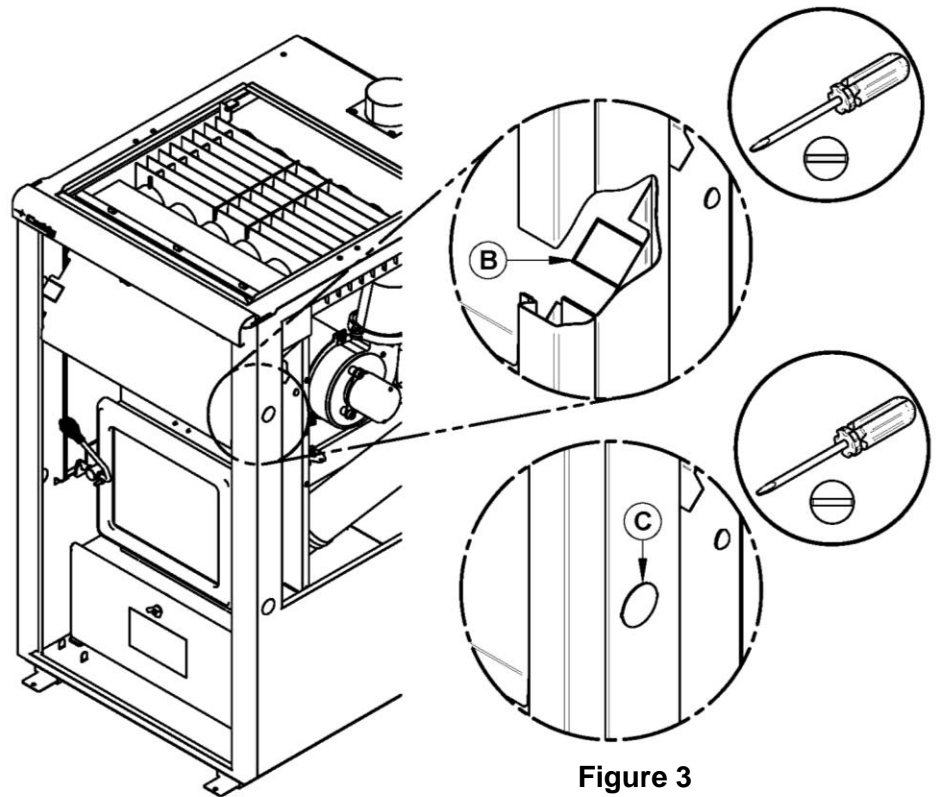

Figure 3
Step 3: If you are installing this option on the right side of your furnace, remove the detachable knock-outs **(B)** and **(C)** with the help of a screwdriver as shown on **Figure 3**. Install the grommets* where the knock-outs were.
Step 4: Place the hot water loop into the interior of the furnace, behind the combustion chamber. When inserting, be careful not to undo the wiring connections (cut the tie-wrap if needed). It is important to position the extremities of the hot water loop through the holes created in **Step 3** (where the knock-outs were detached). The higher end of the solenoid assembly needs to pass through the two holes **(B)** and **(C)** (see **Figure 3**).